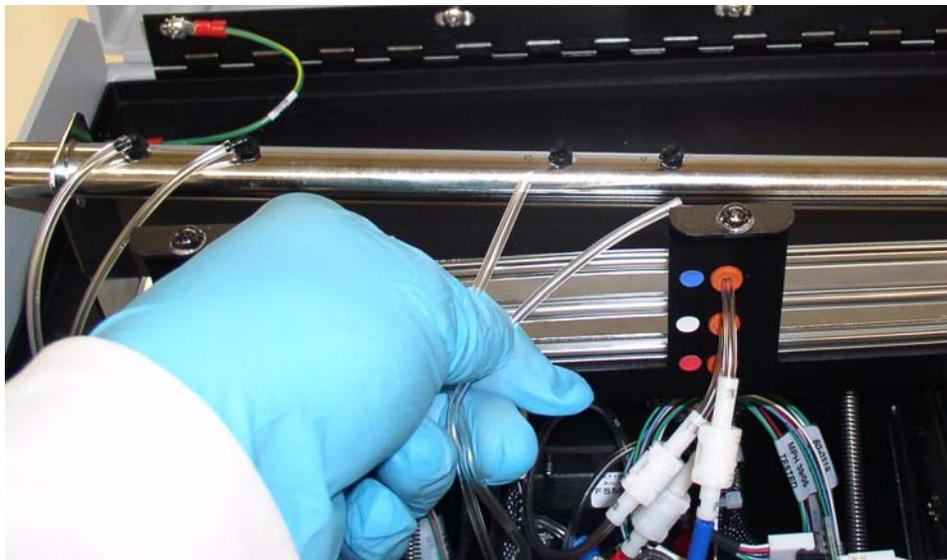

Figure A.3
4. When the Drain_450 script is finished, disconnect the clear waste lines from the drain tube (also called the waste conduit, or waste trough. This is the large chrome-angled tube running along the back). See Figure A.3.